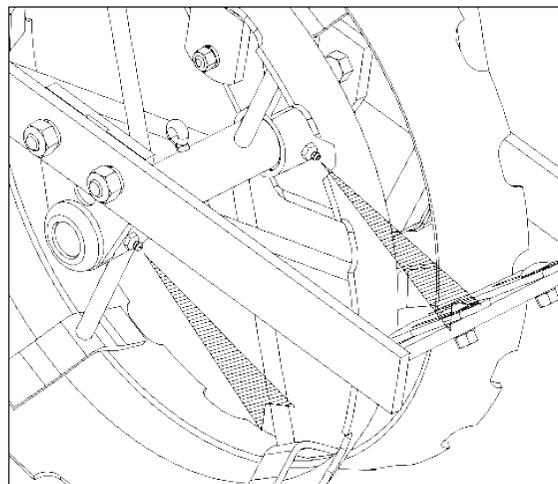

Figura 44
**LUBRICAR CADA 30 HORAS DE TRABAJO ( FIGURA 44 )**